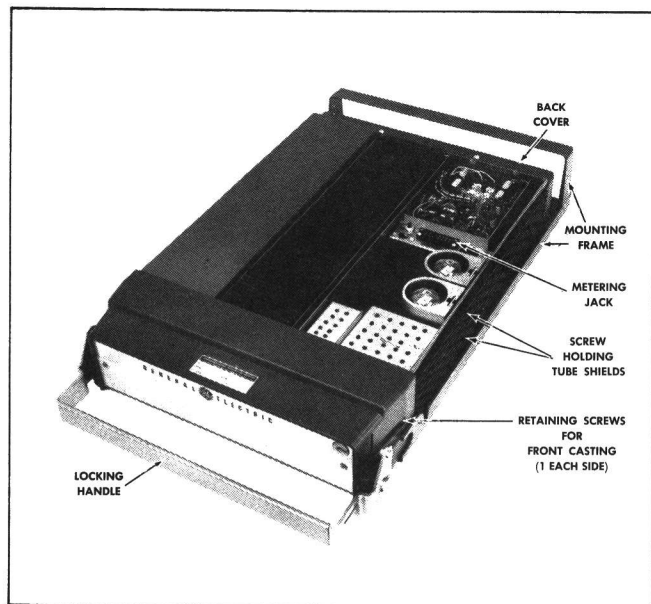

Figure 2 - Top Cover Removed
1. Loosen the two retaining screws in the front casting (see Figure 2) and pull casting away from the system frame.